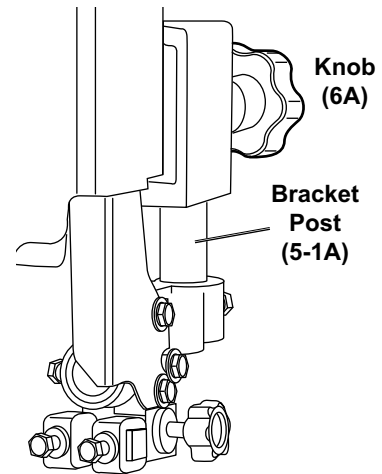

Figure 29
1. Loosen the Knob (6A) and set the Bracket Post (5-1A) as close as possible to the top surface of the material being cut. See Figure 29.